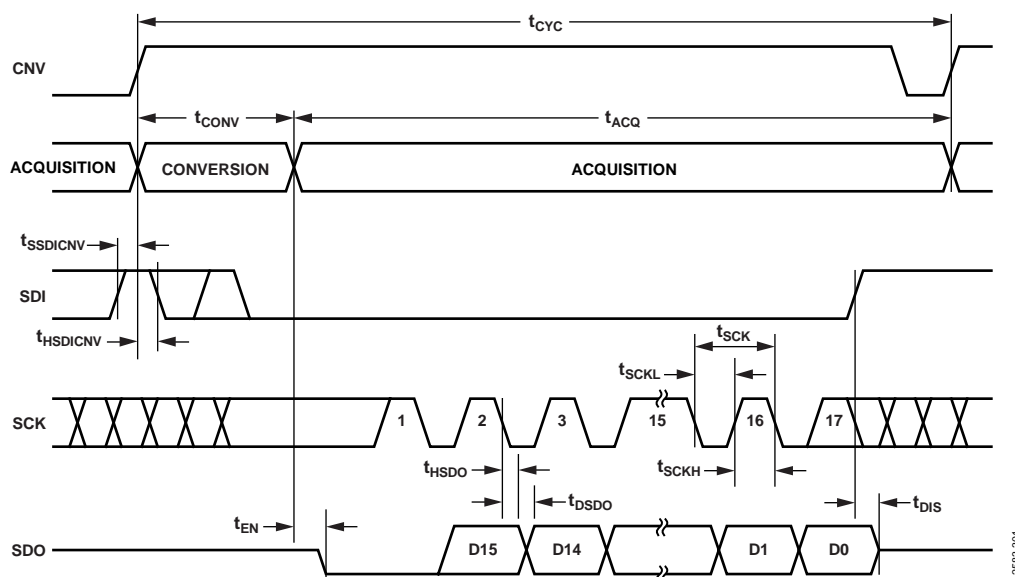
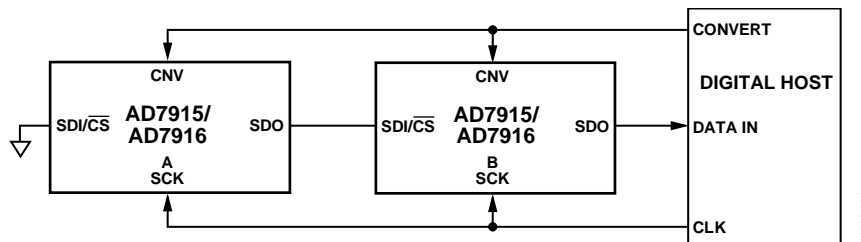

Figure 41. 4-Wire  $\overline{\text{CS}}$  Mode with Busy Indicator Serial Interface Timing
Figure 42. Chain Mode Without Busy Indicator Connection Diagram
- in  $\overline{\text{CS}}$  mode if CNV or SDI is low when the ADC conversion ends (see Figure 38 and Figure 42).
The connection diagram is shown in Figure 41, and the corresponding timing is given in Figure 42.